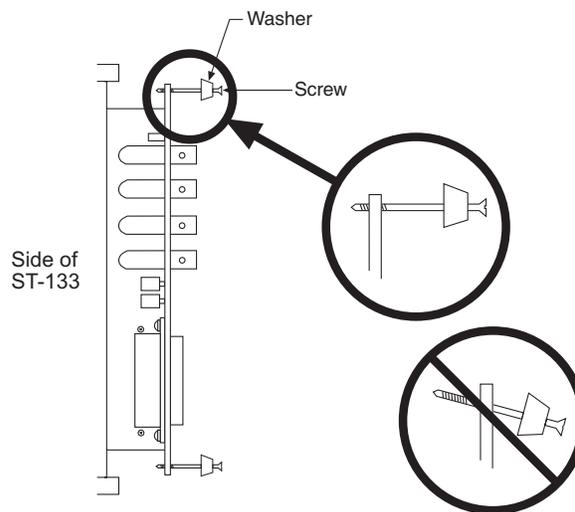

Figure 60. Module Installation
3. Rotate the two locking screws counterclockwise until the threads on the screws engage those of the module panel. *See Figure 60.* By doing this, the screws will be perfectly perpendicular to the module panel and will align perfectly when the module is inserted.